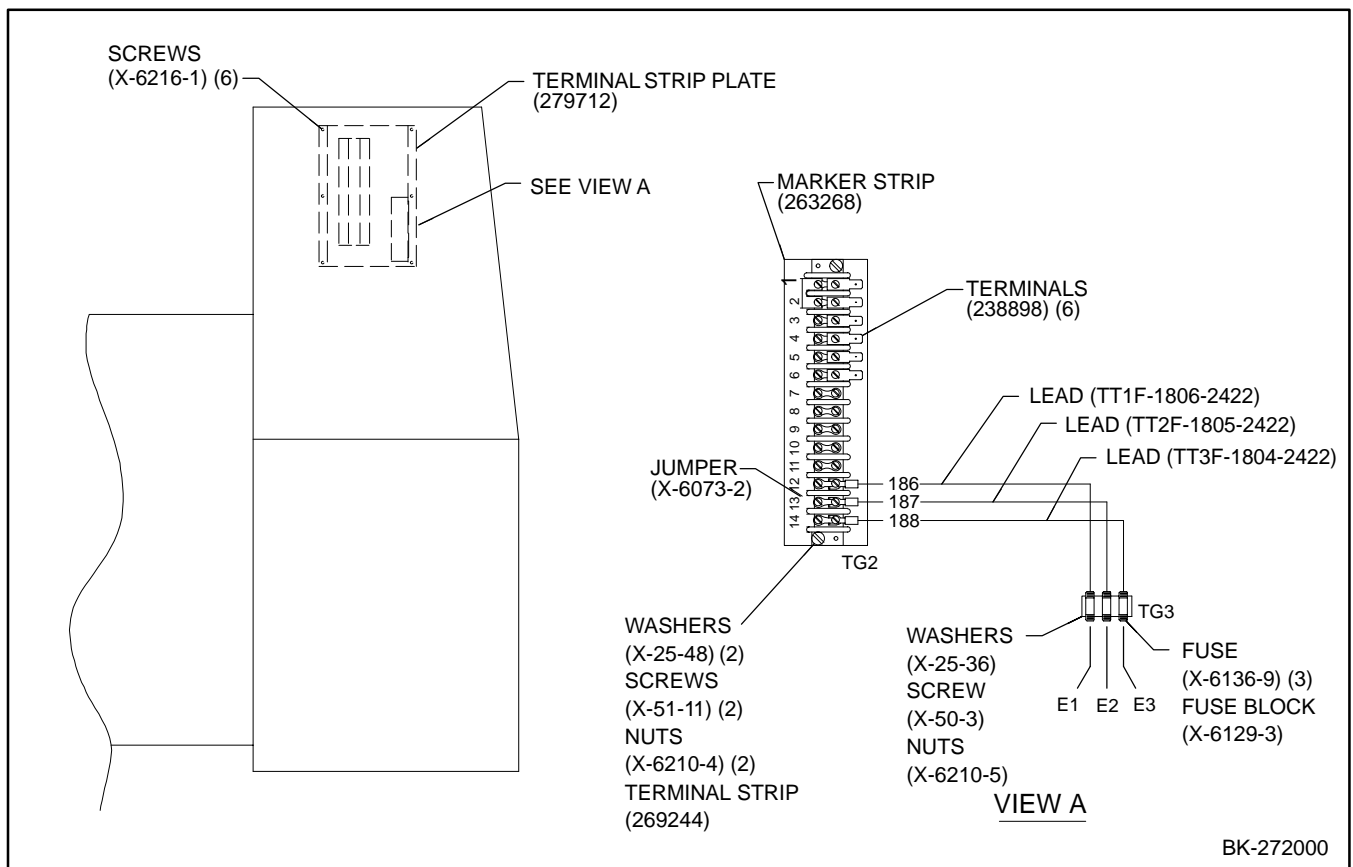
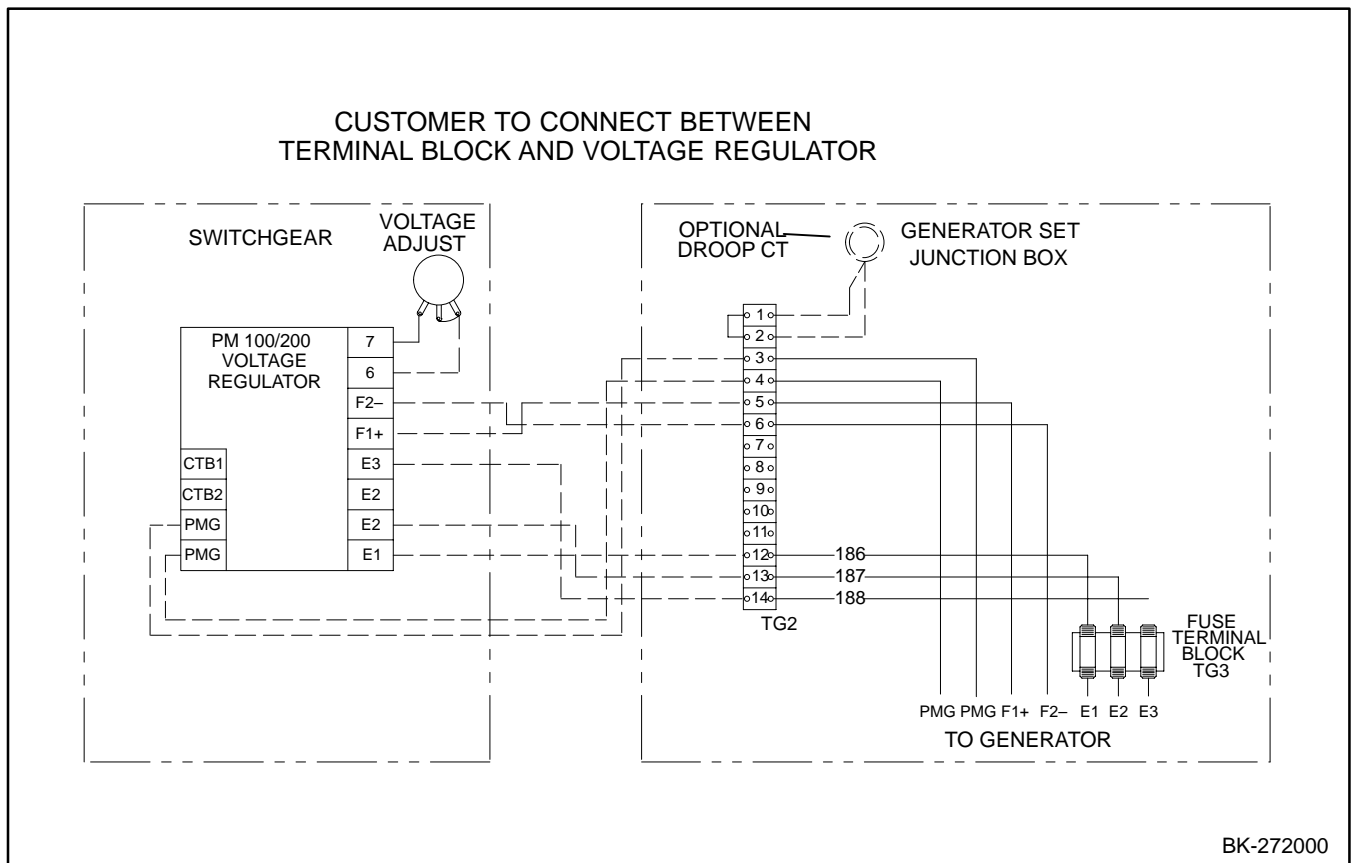

Figure 1. Kit Installation
Figure 2. Wiring Diagram
4. Position terminal marker strip (263268) on terminal strip (269244) and mount terminal strip to terminal strip plate (279712) with two 8-32 x 0.750-in. screws (X-51-11), washers (X-25-48) and whiz nuts (X-6210-4). See Figure 1.
6. Connect fuse block (TG3) to terminals 12, 13, and 14 of the terminal strip (TG2) with leads (TT1F-1806-2422), (TT2F-1805-2422), and (TT3F-1804-2422) as shown in Figure 1.
9. Install six terminals (238898) and one jumper (X-6073-2) on terminal strip as shown in Figure 1. Make electrical connections to terminal strip per wiring diagram (see Figure 2).
12. Mount voltage regulator board and voltage adjust potentiometer in desired locations and make connections per wiring diagram in Figure 2.